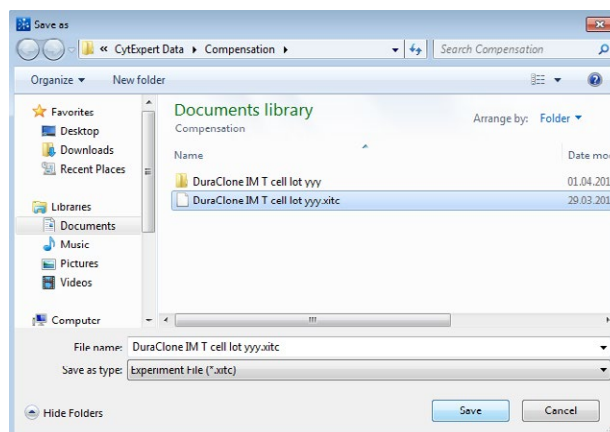

Figure 13. Recommended file naming conventions for CytExpert compensation library data.
2. Select a file location and save the new compensation as “DuraClone* xxx Lot yyy”, replacing xxx by the name of the panel, e.g. “IM T Cell” and yyy with the Lot number of the DuraClone* IM kit (Figure 13).